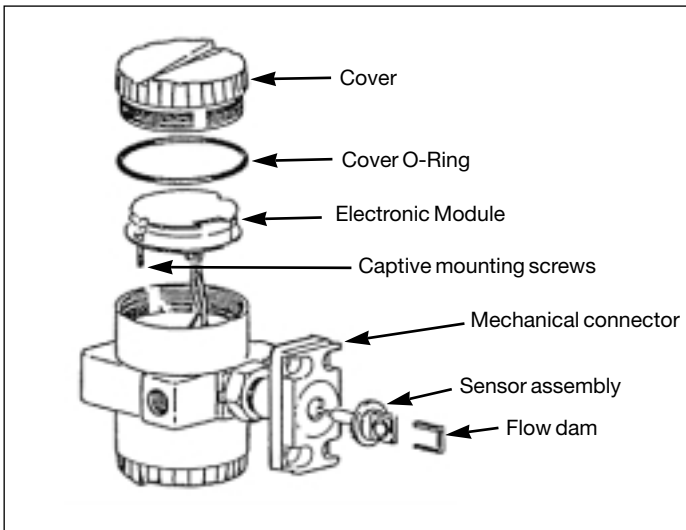

Figure 30: Electrical Housing/ Mechanical Connector
- Slide the sensor out of the mechanical connector. See Figure 30.